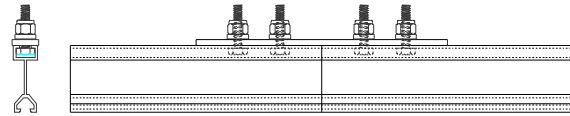

Figure 14
**STEP 26.** Using the lock nuts, attach the splice bar to both of the mating subchannels (see Figure 14).